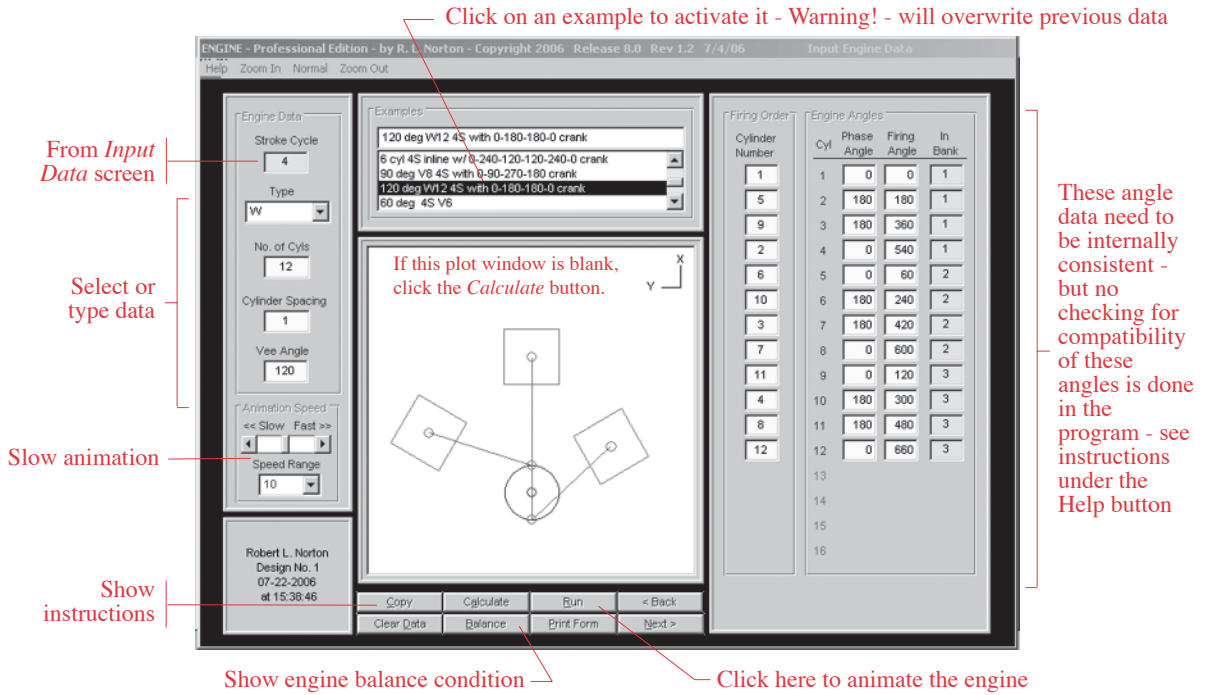

FIGURE A-22
Initially, only the *Input* and *Quit* buttons are active on the *Home* screen. Typically, you will start a design with the *Input* button, but before doing so, one of the examples under the *Example* pull-down menu can be selected. If you activate one of these examples, it will calculate the result and take you to the *Engine Data* screen (see Figure A-22, p. 805). Click on the *Run* button to see the engine in operation. When you return to the *Home* screen you will find all the other buttons to be active. We will address each of these buttons below.
Once the single-cylinder configuration is satisfactorily designed and balanced, the engine can be assembled. Figure A-22 shows the *Engine Data* screen used for assembly of a multicylinder engine. Its *Help* button brings up the information shown in Figure A-23, which points out that the crank phase diagram (called a **Power Chart** in program ENGINE) as defined in Section 14.2 (p. 688) and shown in Figures 14-9, 14-12, 14-14, 14-16, 14-18, and 14-24 (pp. 691-715) should be defined and drawn manually before proceeding with the assembly of the engine. The assumptions and conventions used in the program to number the cylinders and banks are also stated on the screen shown in Figure A-23. These are the same conventions as were defined in Section 14.2 (p. 688). The upper limit stated in item 7 of Figure A-23 for the acceptable range of power stroke angles will be either  $360^\circ$  for a two-stroke engine or  $720^\circ$  (as shown) for a four-stroke engine.
The program also needs the distance between cylinders which is defaulted to one. This information is used to define the  $z_j$  in equations 14.11 (pp. 710-711). If you want to compute the correct magnitude of the shaking moment, the actual cylinder spacing of your design needs to be supplied in the box at the lower left of the screen in Figure A-22 (p. 805). If you only want to compare two or more engine designs on the basis of relative shaking moment, then the default value of one will suffice. The computation sums moments about the first cylinder, so its moment arm is always zero. The small offset between a vee engine's banks, due to having two conrods per crank throw, is ignored in the moment calculation.